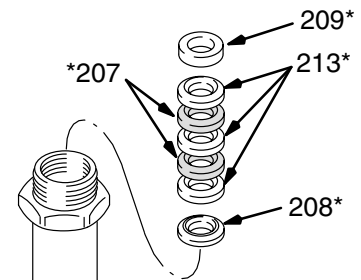

Fig. 28 02571
6. Place the male gland (208*) in the cylinder. Alternately stack the polyethylene (213*) and leather packings (207*) (lips facing down). Then place the female gland (209*) in the top of the cylinder. Seat the packings. See Fig. 28.